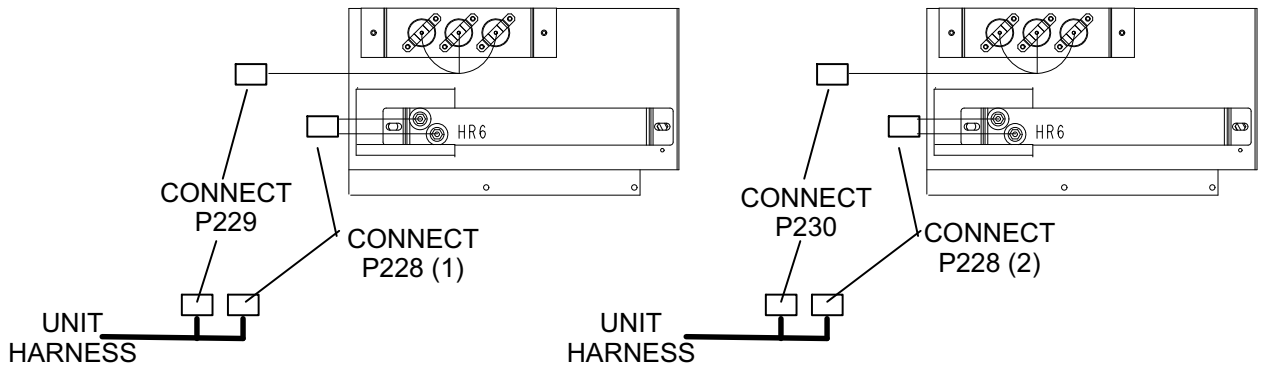

FIGURE 20
- 5- Make wire connections as shown in figure 20 and 21.